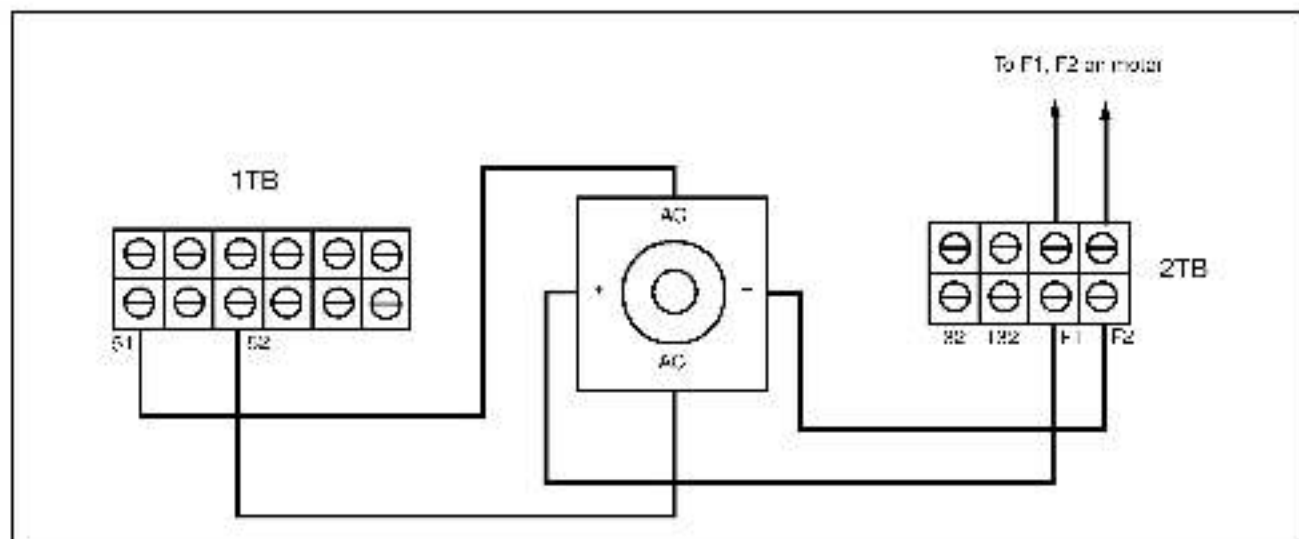
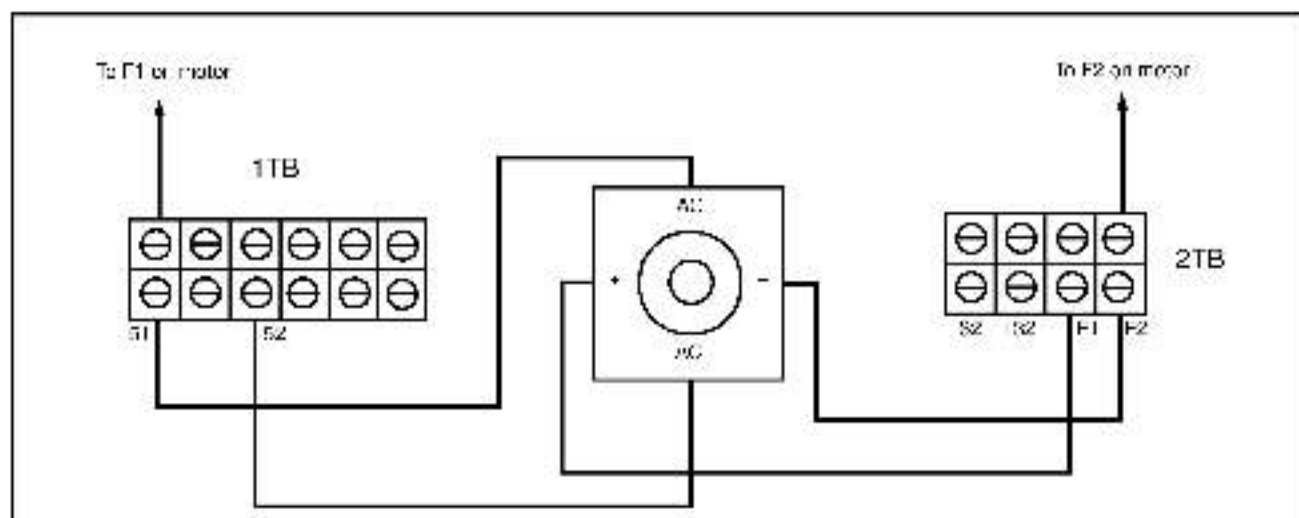

Figure 3 – Connecting the Field Supply (Full-wave)
Figure 4 – Connecting the Field Supply (Half-wave)
- Step 8. Connect wire harness 51/52 to terminal block 1TB. Connect wires F1 and F2 from the Field Supply to terminal block 2TB. Refer to figure 3 (full-wave supplies) or figure 4 (half-wave supplies). Use the fasteners removed in step 6 to mount terminal block 2TB to the drive where terminal block "32/132" was previously mounted.
Step 10. For a **full-wave supply**, connect the motor field wires to terminals F1 and F2 on Field Supply terminal block 2TB. See figure 3.
For a **half-wave supply**, connect motor lead F1 to terminal S1 on 1TB and motor lead F2 to terminal F2 on 2TB. See figure 4.